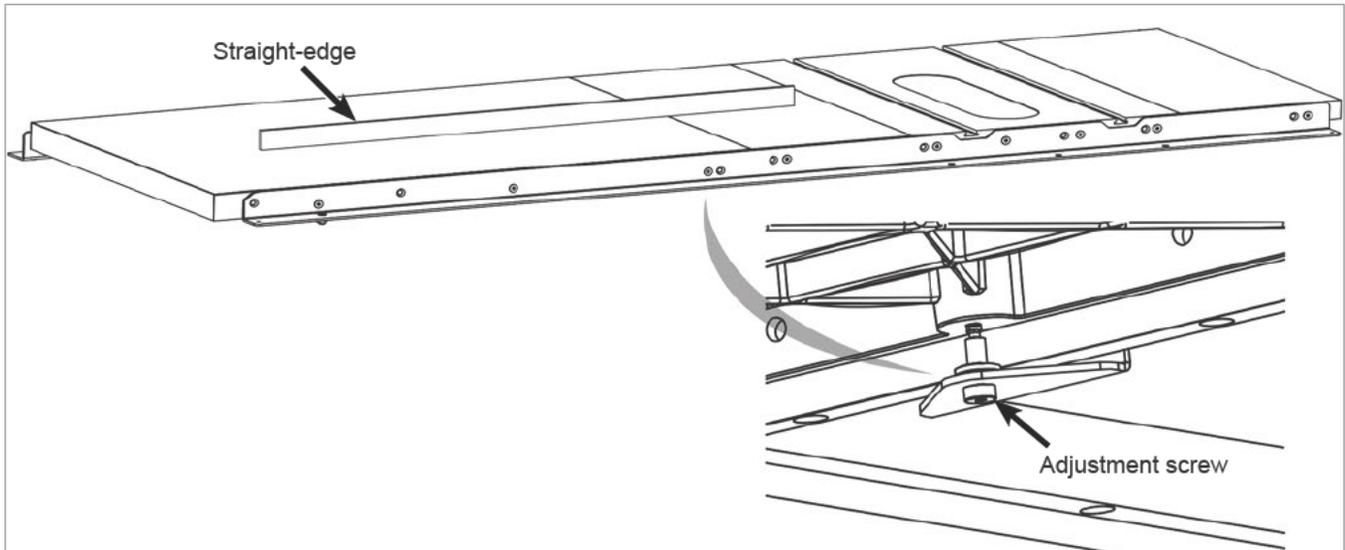

Fig. 25
15. Place the straight-edge lengthwise across the middle of the table and level the middle of the extension table by turning the screw in the adjustment bracket with a 5 mm hex key (See Fig. 25).